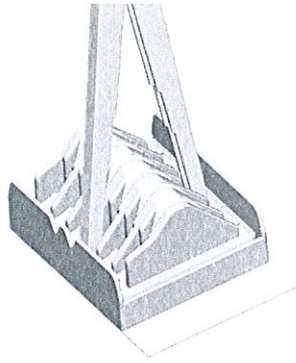

Fig. 2
1. To load the applier, grasp the applier and carefully insert the jaws of the applier into the cartridge slot, making sure the jaws are perpendicular to the base of the cartridge. Gently press the applier over the clip until there is an audible double click (Fig. 2). Do not force the applier into the cartridge or onto the clip. The applier should enter and withdraw from the cartridge easily.